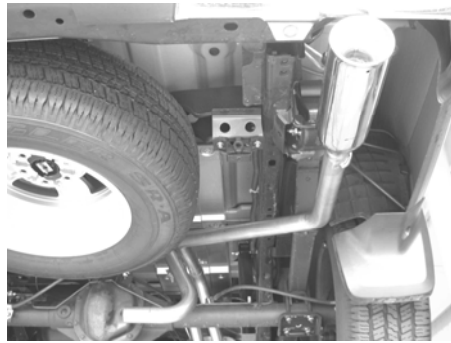

Figure 14
8. Place a clamp over the expanded end of the right tail pipe assembly and set it into position as shown in figure 14 installing the hanger into the rubber bracket. **DO NOT** tighten the clamp.